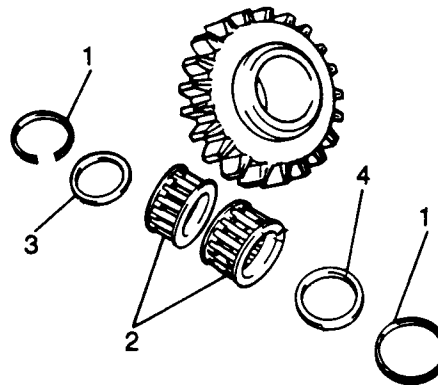

Fig H1.135
(1) Refer to Fig H1.135. With the spring ring (1) fitted, first introduce the stop washer (3).
(2) Next fit the two roller bearings (2).
(3) Fit the other adjusting washer (4) and lastly fit the other spring ring, making sure that it fits perfectly in the gear groove.